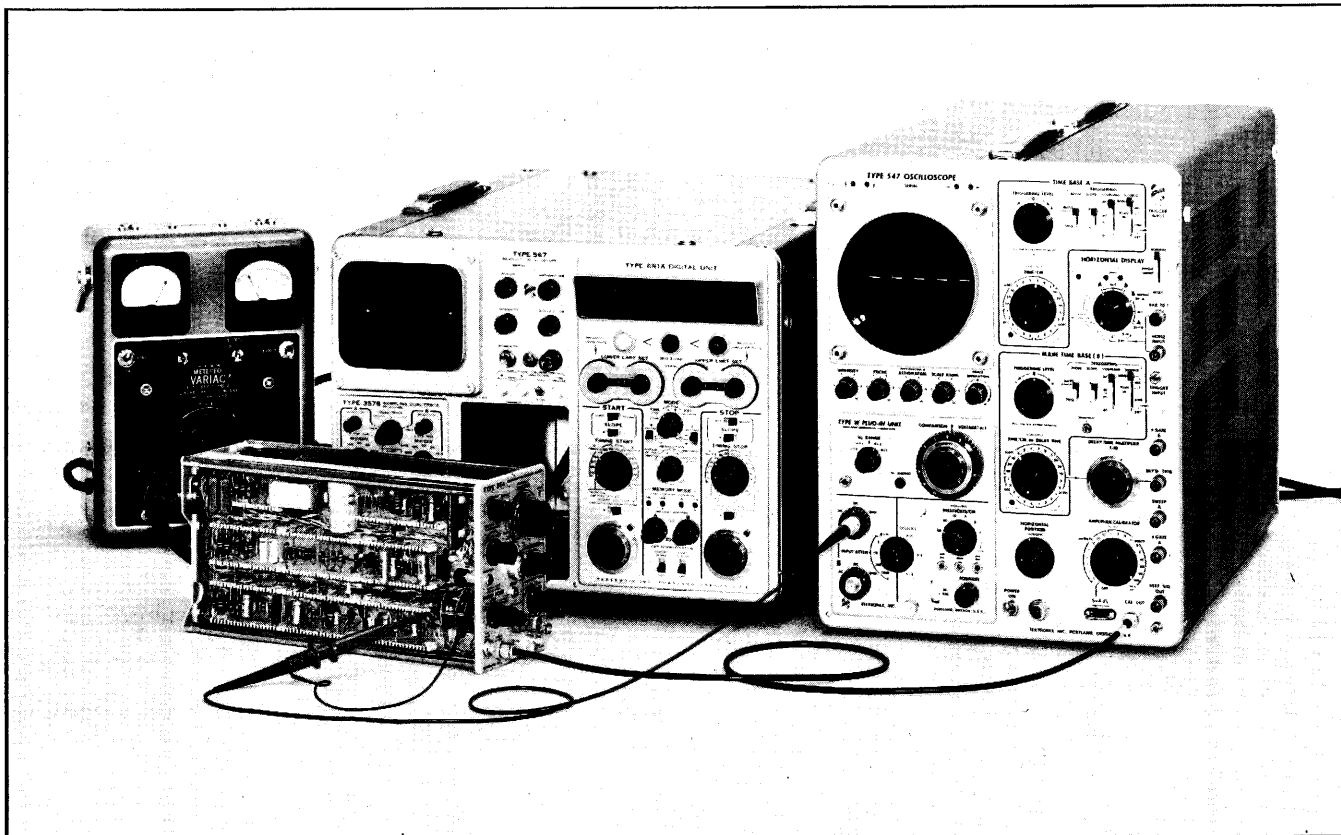
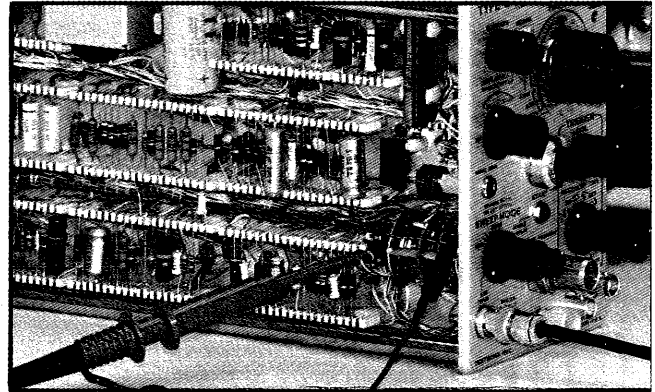

Fig. 5-15. Step 6 test setup for adjusting HORIZ GAIN control, R301.
Fig. 5-16. Probe tip connection to arm of R301.
Connect a 50 Ω coax cable between the test oscilloscope CAL OUT connector and the Type 3T4 sweep EXT INPUT connector. Connect the 1× probe to the Type W Channel A input and to the arm of R301, MANUAL SCAN OR EXT ATTEN control, see Fig. 5-16.
6. Adjust HORIZ GAIN Control, R301 ①
a. Set up the equipment shown in Fig. 5-15, with the 1× probe connected to the arm of R301 as shown in Fig. 5-16. Set the MANUAL SCAN OR EXT ATTEN control to about midrange. The test oscilloscope display should show just the ground level part of the Amplitude Calibrator signal. Adjust the Type W POSITION control so the signal rests on the graticule centerline.